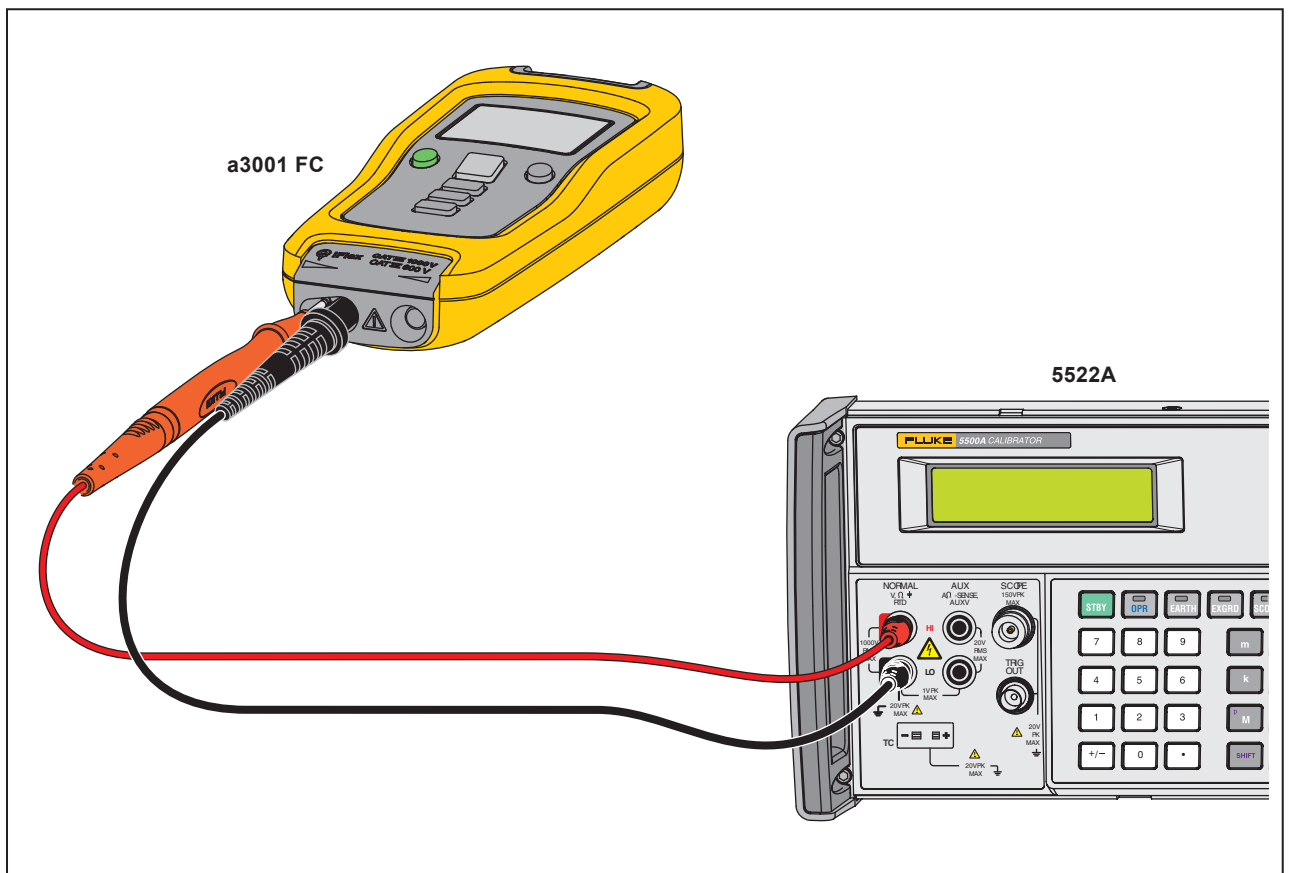

Figure 2. Performance Test Connections for Simulated Voltages
*While the calibration adjustment points are shown in Table 4, the Product also can show the necessary inputs. For each step, push **LOG** to see the necessary ac reference signal amplitude and then push **INRUSH** to see the necessary frequency input. For this calibration adjustment, volts are used in place of current. Use the connections shown in Figure 2.*